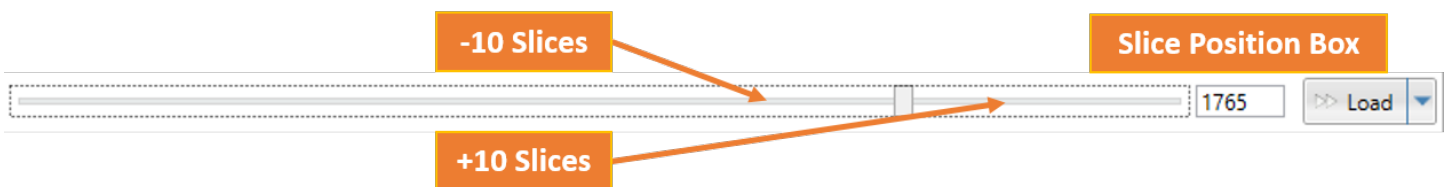

Figure 12: Screenshot of slider bar with the slice position box located on the “Tasks” tab.
23. Locate the slice position box on the right side of the screen, which should be directly left to the “Load” button (Figure 12). Enter the analysis start slice value (calculated in Step 21 previously) in the box and hit the “Enter” key, which should load the analysis start slice on the left-hand side of the screen.